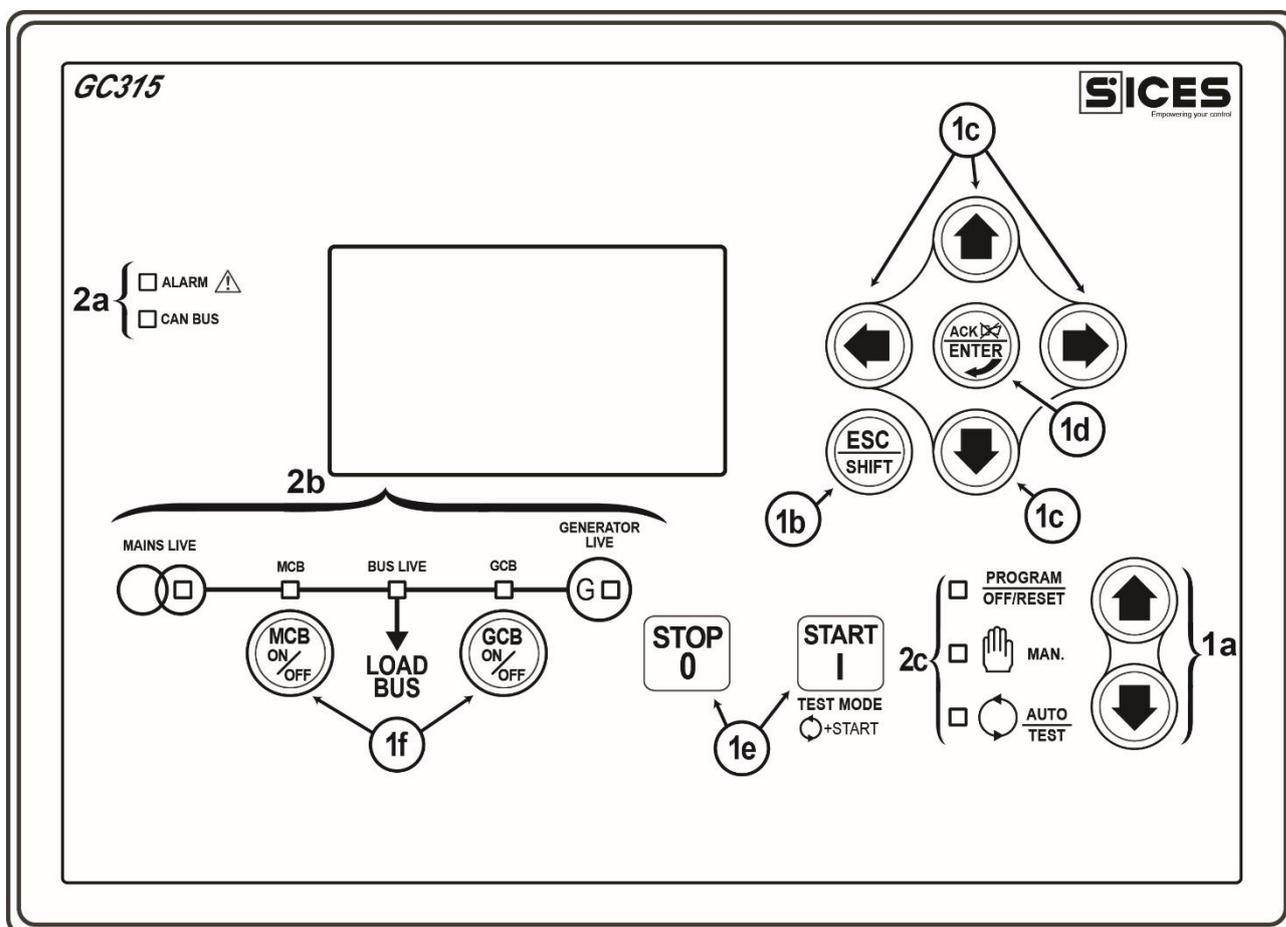

Fig. 1 - Painel Frontal GC315/GC315Plus
12.2 Teclas (Ref. Fig. 1)
12.3 LED's de sinalização (Ref. Fig. 1)